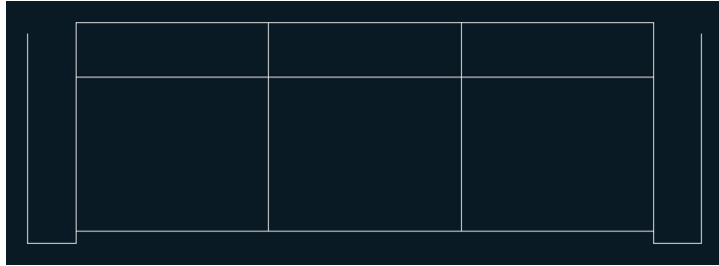

FIGURE 9.4 Filleting lines to meet at sharp corners
9. Press the spacebar to repeat the FILLET command. Click the inner line on the left arm of the sofa, and then click the back line. Figure 9.4 shows the result.